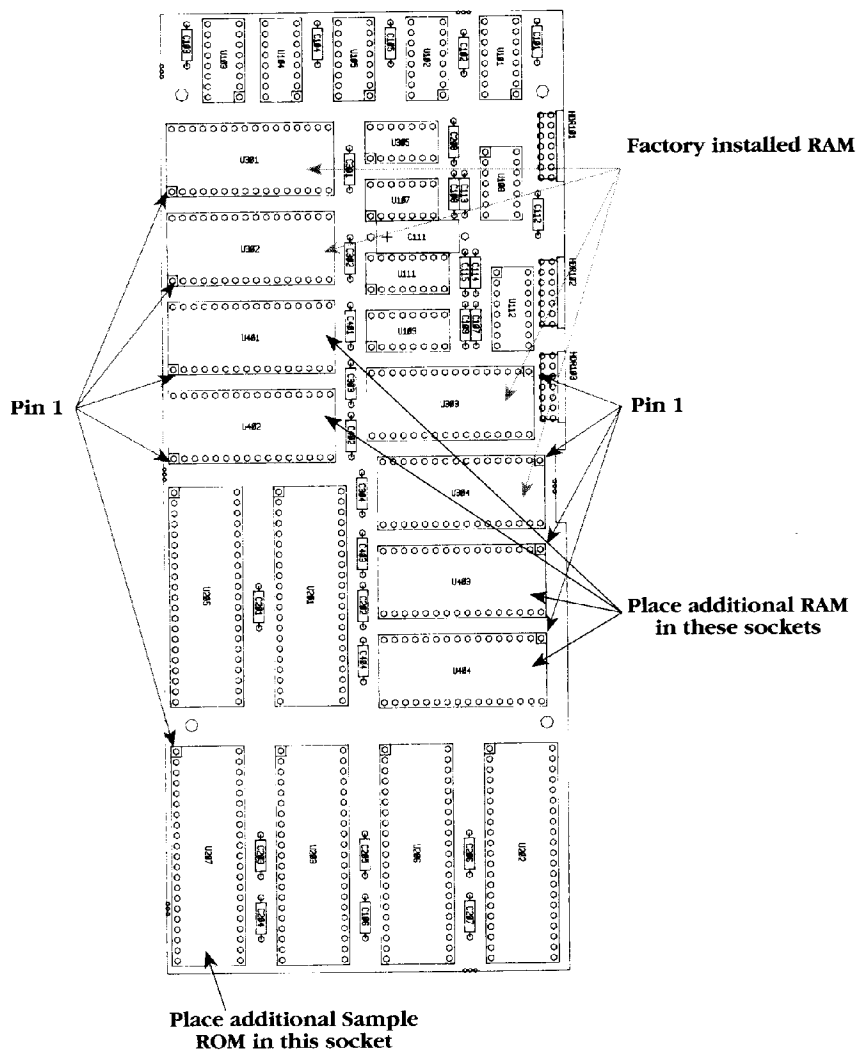

Figure 3
8. The DPM 4 Memory Board comes with 512K of RAM pre-installed. To install an additional 512K of RAM (bringing the total to 1 megabyte of RAM), the installation of four RAM ICs is required. Refer to *Figure 3* for proper location of additional RAM.
9. The DPM 4 comes with ten megabytes of Sample ROM pre-installed. An empty socket is provided for future expansion of sample memory (via a two-megabyte IC—resulting in a total of twelve megabytes of Sample ROM). Refer to *Figure 3* for the proper location of the two-megabyte Sample ROM IC.
**Note:** It is *very* important to place the ICs in all of these installation procedures with pin 1 in the proper orientation (refer to *Figure 2a*). For RAM installation, place the ICs with pin 1 in the same orientation as those already installed (see *Figure 3*). For Sample ROM installation, place the IC with pin 1 in the same orientation as those already installed (see *Figure 3*). For EPROM installation, replace the ICs in the same orientation as those removed.